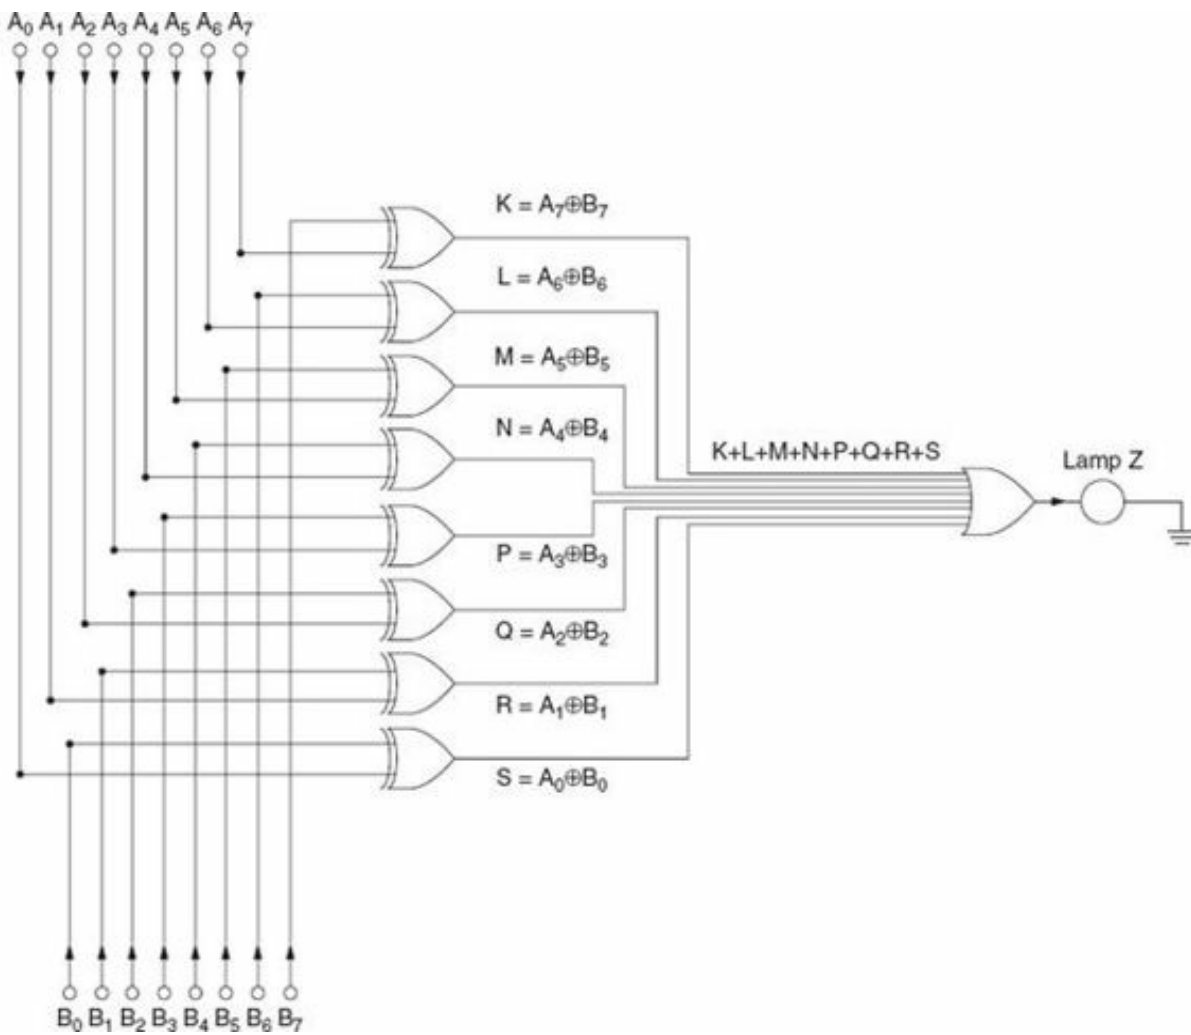
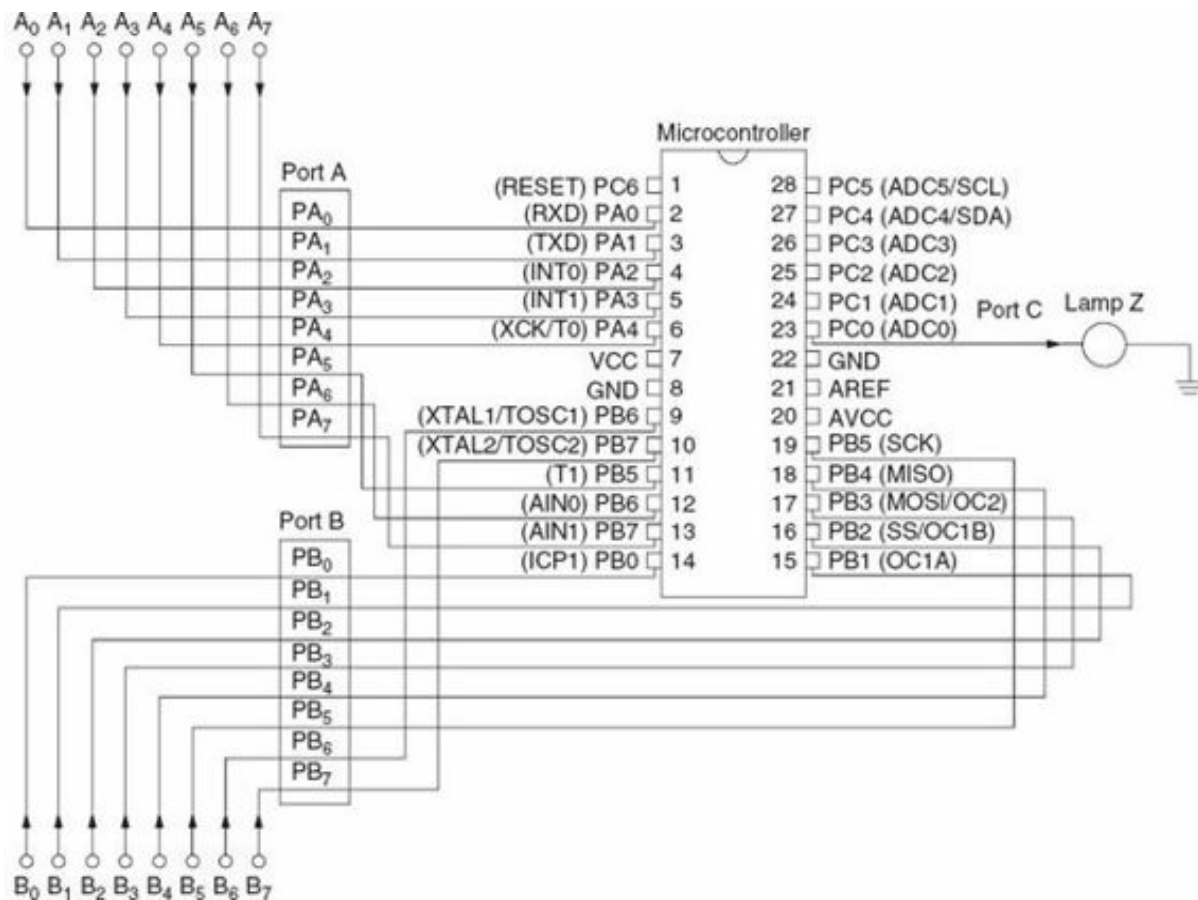

FIGURE 9.3 Hardware tester for logic.
FIGURE 9.4 Microcontroller.
Figure 9.3 shows a design that lights the output light Z any time a bit at one line on the cable does not match its counterpart on the other cable. Even if data is flying down the cables at millions of bytes per second, if 1 bit fails 20 percent of the time, the light at the output will be illuminated to 20 percent of its maximum brightness. This logic system uses two-input XOR gates, whose output is high (logic 1) only when its pair of inputs do not match. An eight-input OR outputs a 1 which turns on lamp Z if any bit does not match. Figure 9.3 shows the hardware for this tester where A_0 through A_7 are the output data of one machine and B_0 through B_7 are the output data of another machine.
For comparison, the same circuit could be done using a microcontroller, which is a microprocessor with its own memory and I/O controllers built in. Assume, for example, a hypothetical 8-bit microcontroller is already supplied with all its power, clock, and control signals. Figure 9.4 shows the microcontroller in terms of the inputs and outputs attached to it. In this figure the same two 8-bit cables are attached to ports A and B of the processor, instead of the inputs of XOR gates.
If the program in the preceding textbox runs in the processor shown in Fig. 9.4, it performs the same operations as the hardware shown in Fig. 9.3. The only difference is that the microcontroller may be a little slower at doing the comparison than the array of logic gates. If the binary on the two 8-bit cables changes between lines 2 and 3 of the program, the comparison could show an error even if the two cables were matching perfectly, moment by moment. Therefore, it is necessary to clock this processor through its instructions faster than the data on the A and B cables.
In addition to memory, the microprocessor is connected to hardware devices called input ports and output ports. These are built-in parts of the microcontroller in Fig. 9.4 but are added externally in a microprocessor system. The same address pins that select one among thousands of memory locations for reading or writing can also select one among thousands of input ports and thousands of output ports.
It is hard to imagine any microprocessor system with more than a few dozen hardware input or output ports. The Z-80180 could certainly operate more than the three available ports in the microcontroller shown of Fig. 9.4. When the RD or WR signals are accompanied by an active memory request (MREQ) signal, one of the $\frac{1}{2}$ million addresses is selected in the array of memory chips. This array of memory chips has a byte written to (WR) or read into the accumulator (RD) of the CPU from that specific memory location. If the signal called input/output request (IORQ) is active instead of MREQ, the same address on the address bus pins is used to select one of the I/O ports instead of the memory address. Although a computer may use several hardware ports, you will not find half a million input devices and another half a million output devices. If a design needs to be expanded beyond the limits of the address bus pin count, a large number of the 524,288 I/O addresses could actually be populated with memory boards instead of I/O ports.